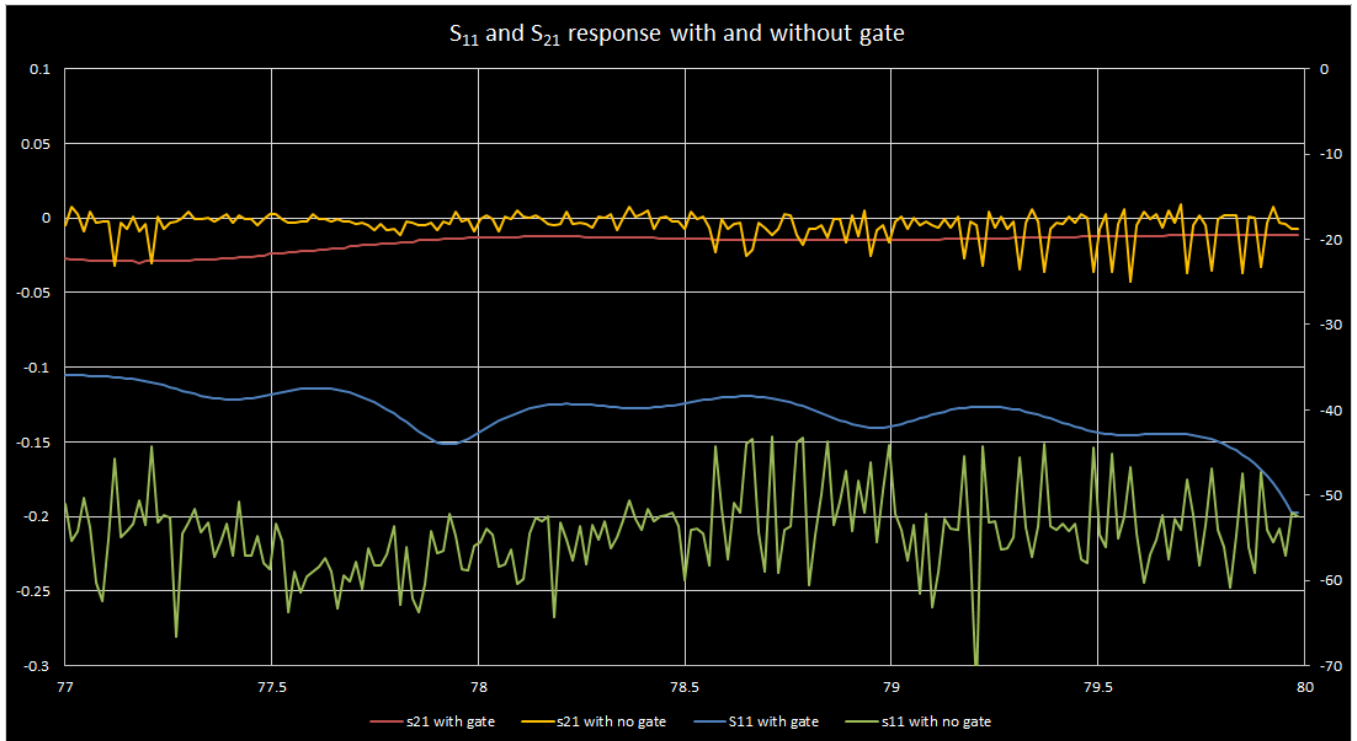

Figure 8. Transmission and reflection response with and without gate
We can also see how the gate affects the time domain (TD) response. Of course, window type can be changed and the size modified, which will slightly vary the response. Then we can move to displaying the “Frequency Response with Time Gate” to see the result after applying the gating to our measurements. In the following trace we can see the transmission and reflection response of the thru with and without gate (Figure 8). We can clearly see the fading of the ripple in both traces, but also some effect on the trace itself. Not a big difference in transmission trace, which can be degraded by 0.02 dB, but a significant variation in reflection. Still, reflection values are still very good numbers (almost less than -40 dB), and it could be worth trying with different window sizes and types to enhance the results.